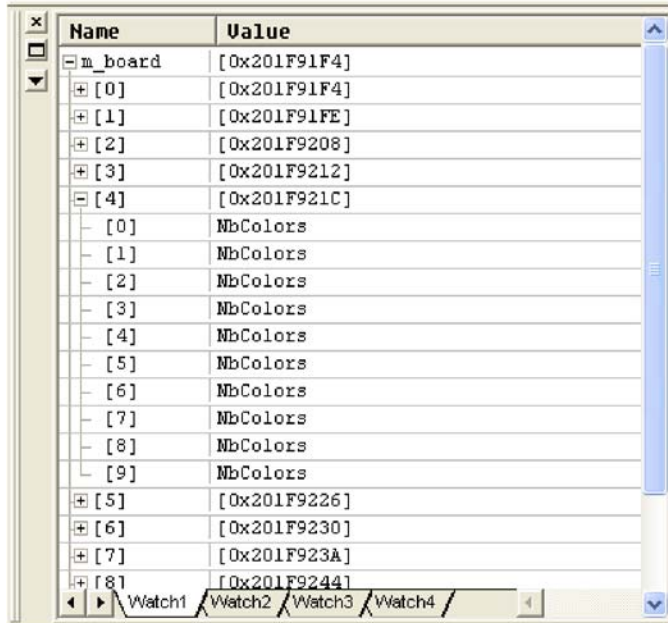

Figure 5-65. RealView Debugger Watch Window
- Right-click **m\_board** and select **Watch** from the context menu. The m\_board array will be added to the watch window, as shown in Figure 5-65.